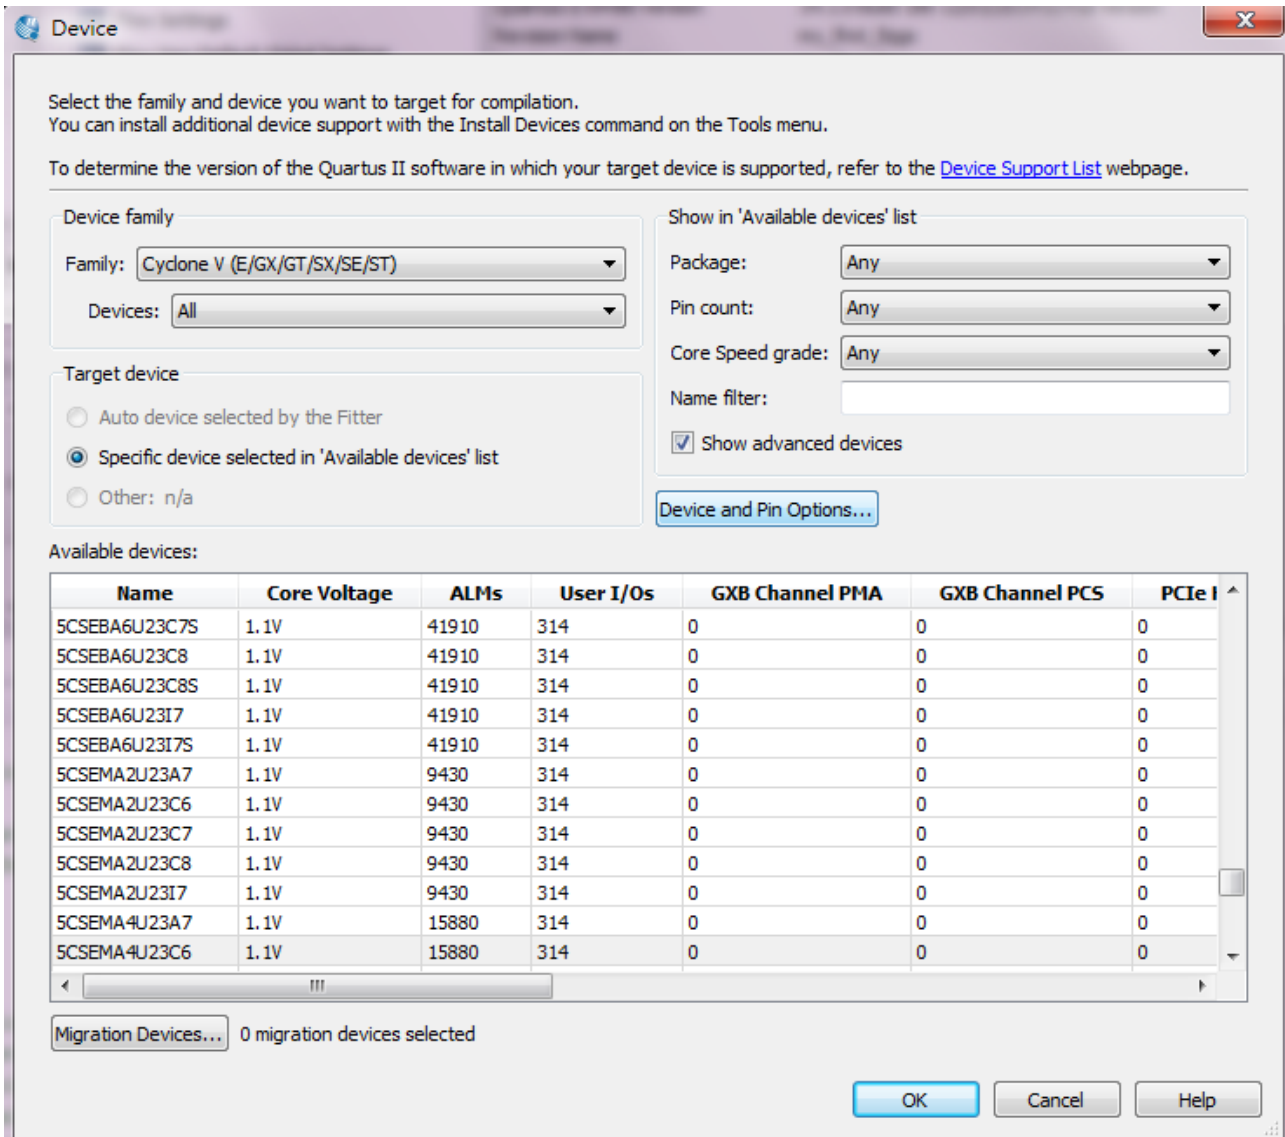

Figure 4-8 Device and Options
3. If other LEDs emit faintness light, Choose `Assignments > Device`. Click `Device` and `Pin Options`. See Figure 4-8.